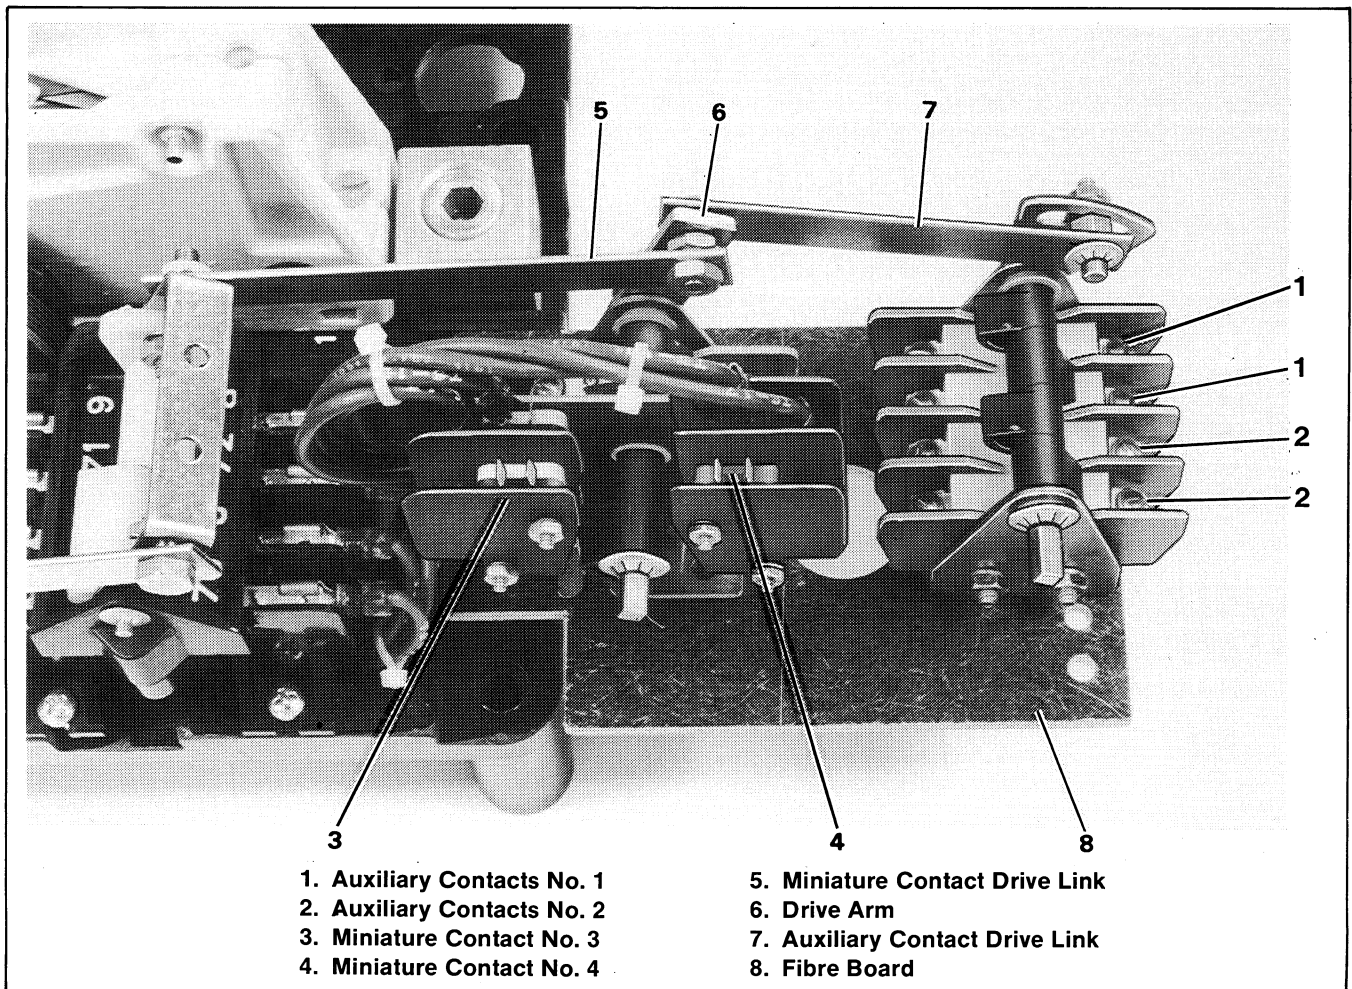

Figure 2-7. 225-400 Amp. Contactor Contacts (Optional)
For adding Aux. Contacts (1) and (2) see Figure 2-7 for location and type of installation.
2. Remove (4) screws attaching miniature contacts 10-11 and 12-13, and fibre board from transfer switch chassis.
For adding Miniature Contacts (3) and (4) see Figure 2-7 for location and type of installation.